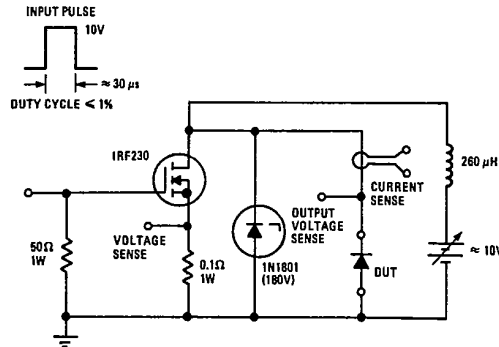

Fig. 11 – I_{RRM} Test Circuit
① $T_C = -55$ to 172°C , 180° conduction
② $T_C = 0$ to 172°C , 180° conduction
③ $T_C = -55$ to 162°C .
④ For SD241 rated V_{RWM} and $V_{RRM} = 45\text{V}$ @ $T_J = 25^\circ\text{C}$; $= 35\text{V}$ @ $T_J = 150^\circ\text{C}$
⑤ I^2t for time $t_x = I^2\sqrt{t} \cdot \sqrt{t_x}$.
⑥ For test circuit refer to Fig. 11.